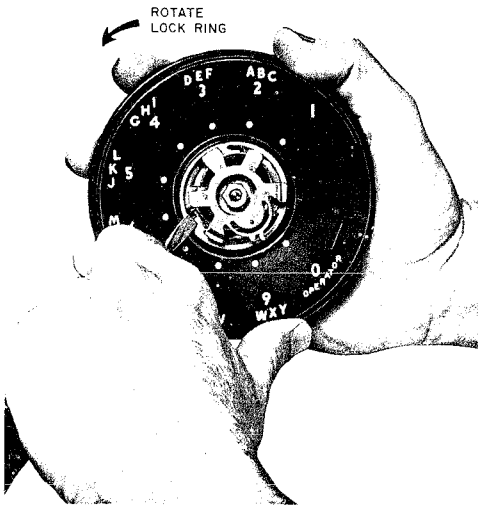

Fig. 7 — Lock Ring Removal
- (4) Rotate lock ring as shown in Fig. 7 until it is free.